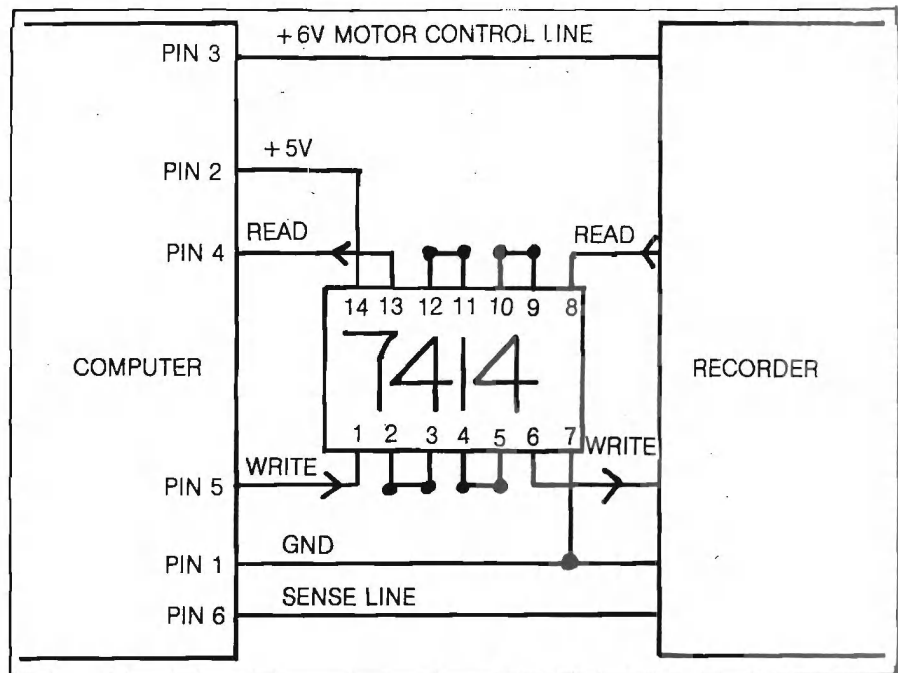
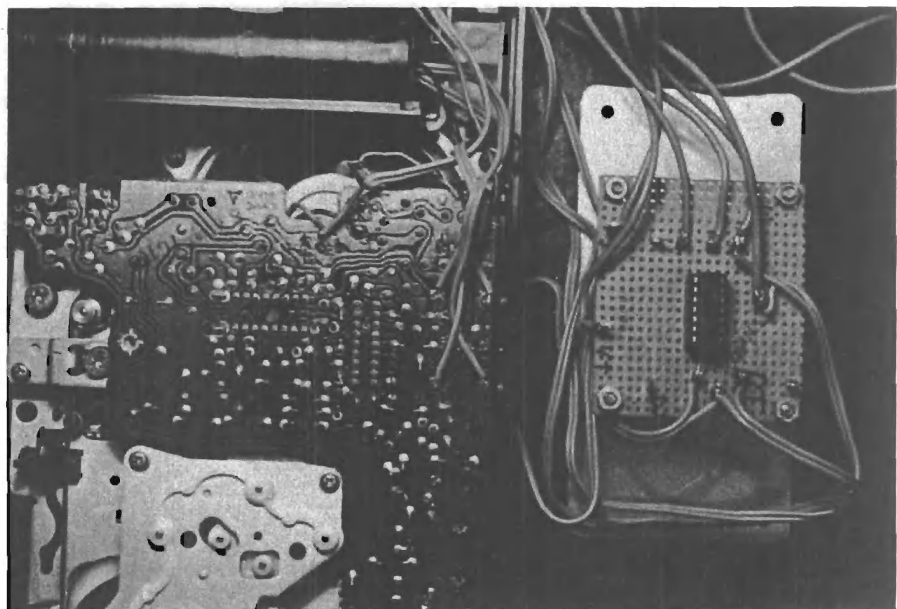

Figure 1: Schematic representation of the interface connections.
Figure 2: Back side of the unmodified cassette recorder and the PERF board containing the 7414 IC.
Interfacing the recorder to the PET is relatively simple. First, remove the screws that hold the cassette case together. Carefully separate the halves of the case, but be aware that there are short wires connecting the printed circuit (PC) board to the speaker and battery pack. Figure 1 contains the schematic representation of the interface. Figure 2 shows the rear electronic on the PC board of the recorder and the 7414 chip. Figures 3 and 4 contain the pre- and post-wiring changes to the PC board and will be described in detail.
Point 3 of the computer. Points C and D are the READ/WRITE lines and are wired to the 7414 Hex-schmitt trigger inverters as drawn in figure 1. I disconnected the speaker wires which are located on the under-side of the PC board.